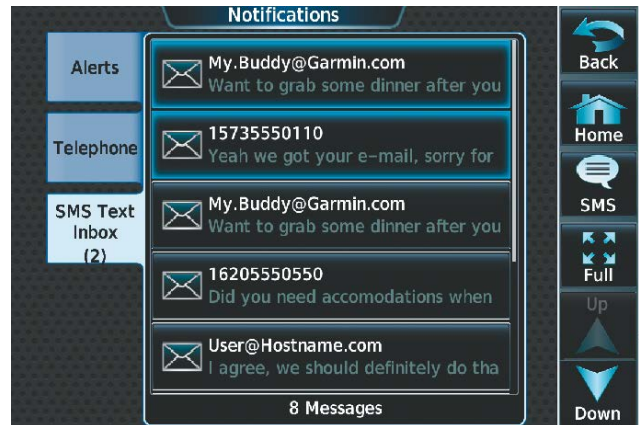

Figure 8-75 Touch Desired Message
- 2) Touch the desired text message in the Inbox list (Figure 8-75). If necessary, scroll to the desired message. The text message is displayed (Figure 8-76).